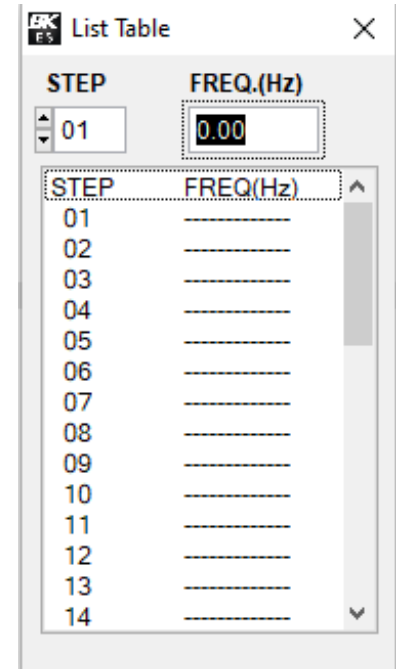

Figure 4.2
- **List:** Create a custom sweep. A separate window will open allowing the user to customize up to 40 steps in a sweep. See figure 4.2